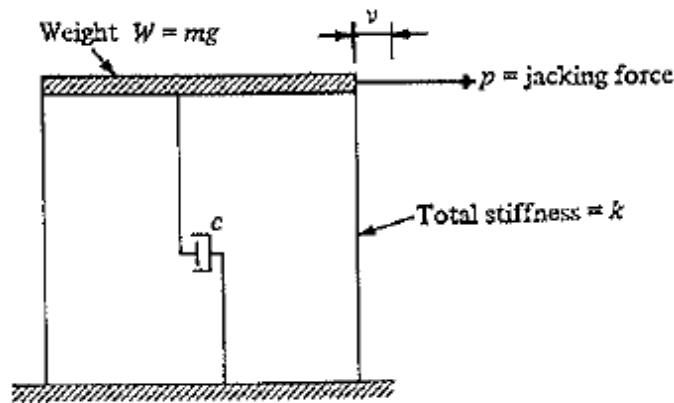

Fig.3
13. a) Explain logarithmic decrement and its practical significance (4)
- b) A one storey building is idealized as a rigid girder supported by weightless columns as shown in Fig. 3. In order to evaluate the dynamic properties of this structure, a free